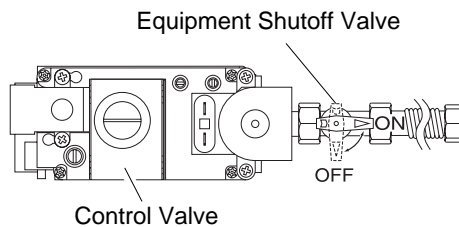

Figure 27 - Turning the Equipment Shutoff Valve to the OFF position
6. Turn the equipment shutoff valve clockwise  to the OFF position (see Figure 27). Do not force.
7. Wait five (5) minutes to clear out any gas. Then smell for gas, including near the floor. If you smell gas, STOP! Follow "B" in the safety information, column 1. If you don't smell gas, go to the next step.